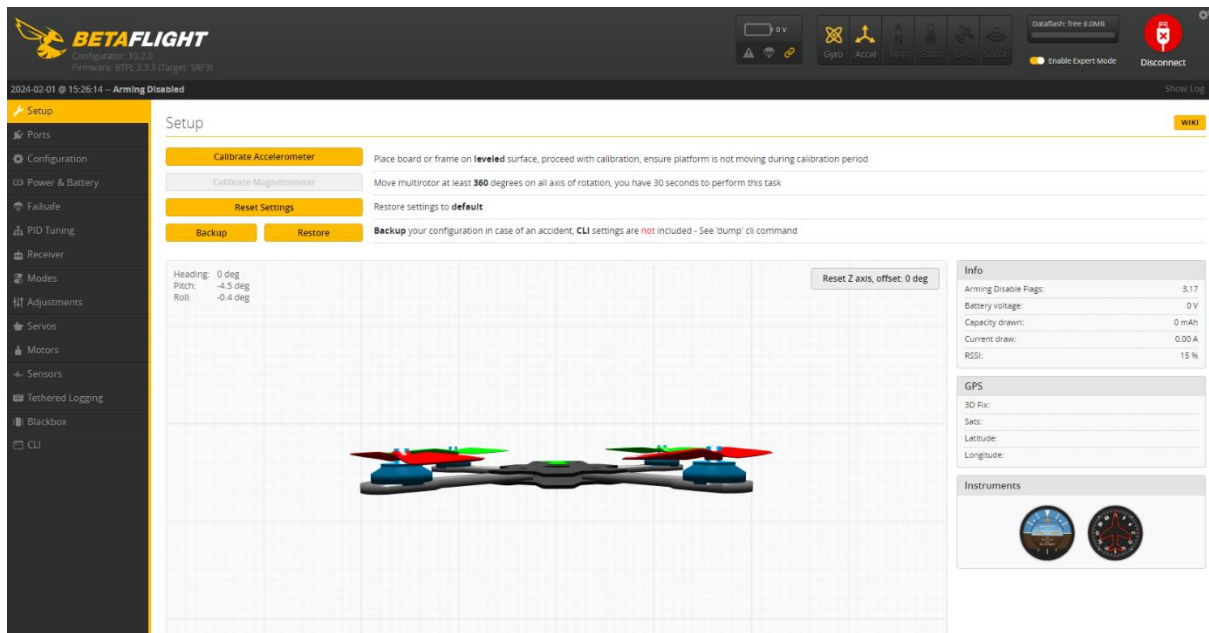

Figure 3 Betaflight flight controller setup screen
6. Clicking connect should enter the setup for your flight controller and you should be presented with an graphical representation of your aircraft (see Figure 3) which should move in response to movements to the physical board.